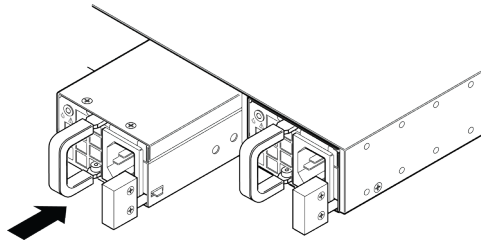

Figure 22: Installing an AC Power Supply
4. Carefully slide the power supply all the way into the power supply bay, as shown in Figure 22.